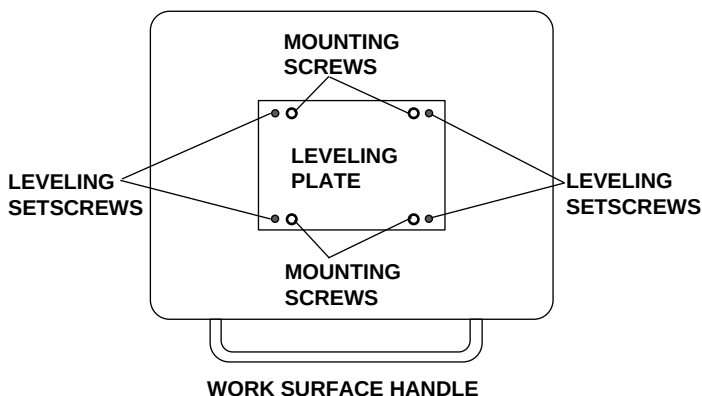

Figure 16. Leveling the Work Surface
3. Using a $\frac{3}{16}$ " hex key, loosen *but do not remove* the four mounting screws found on the bottom of the leveling plate (see Figure 16).
4. Locate the four leveling setscrews (see Figure 16).